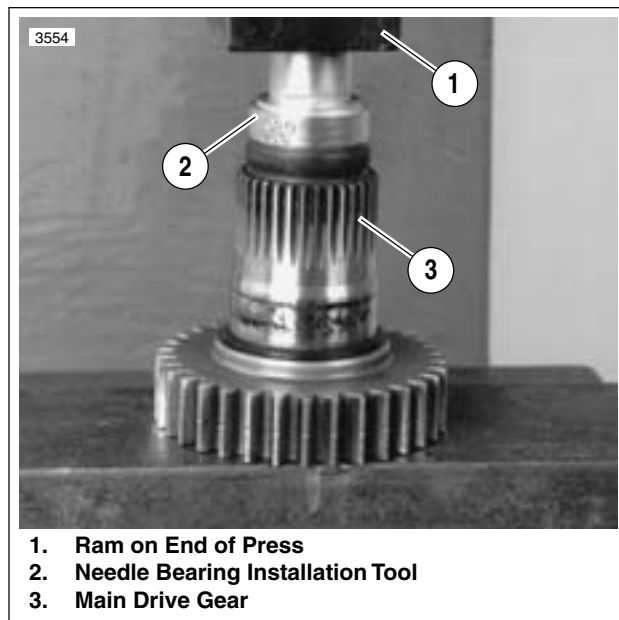

Figure 6-48. Needle Bearing Installation Tool
1. See Figure 6-48. Use INNER/OUTER MAIN DRIVE GEAR NEEDLE BEARING INSTALLATION TOOL (Part No. HD-37842-A) for assembly. Select which end of tool to use.